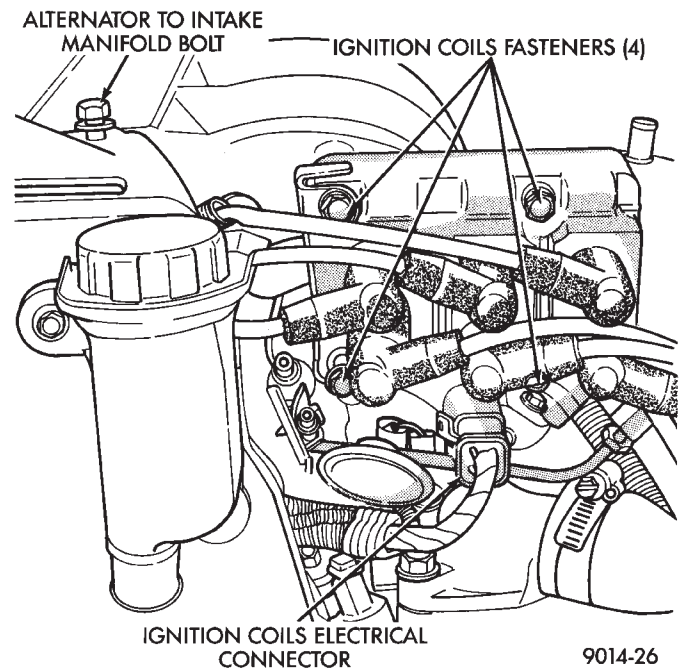

Fig. 8 Ignition Coils
(13) Remove direct ignition system (DIS) coils and alternator bracket to intake manifold bolt (Fig. 8).
(17) Tighten alternator bracket to intake manifold bolt to 54 N•m (40 ft. lbs.) torque (Fig. 8).